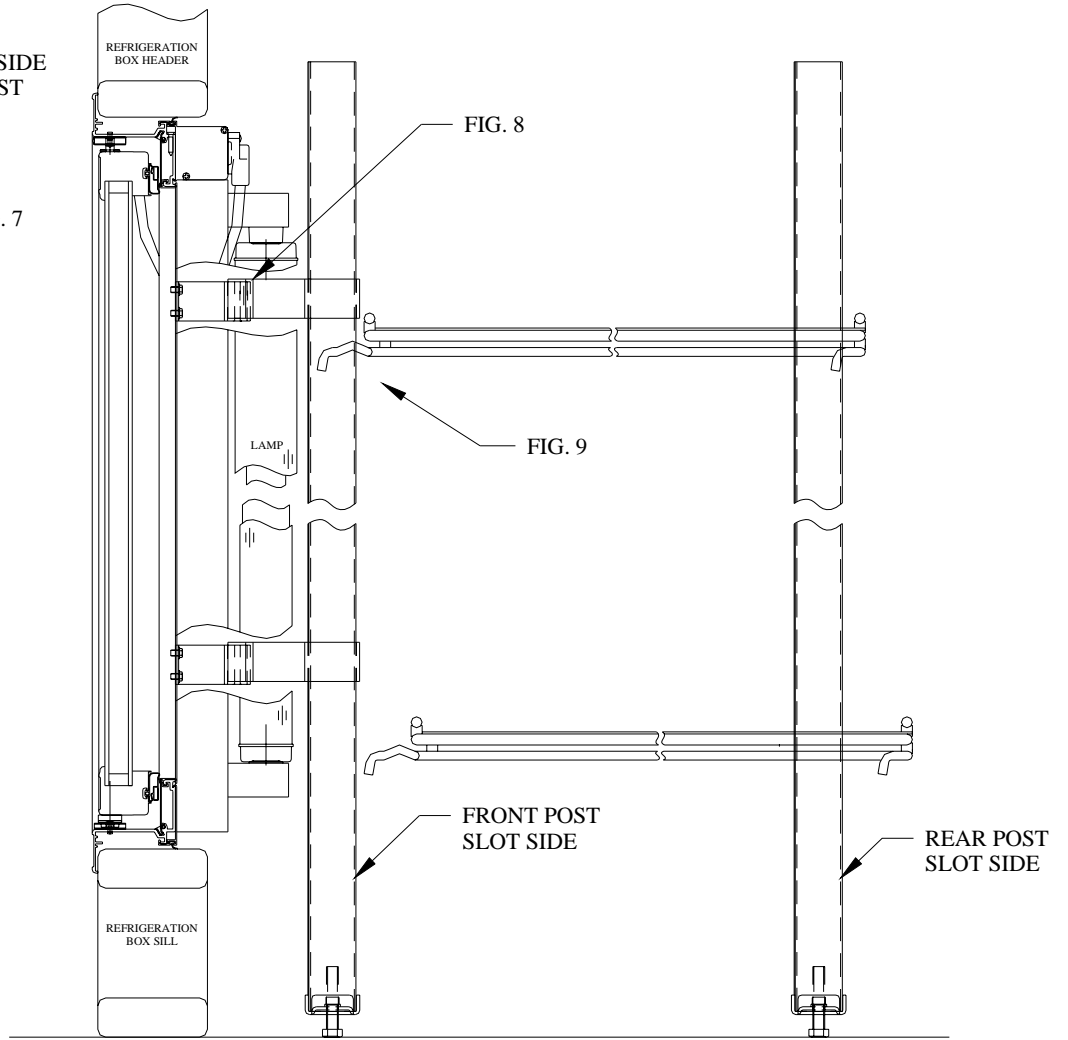

FIGURE 8 & 9
- e) Slide top bracket and hook into top frame bracket as shown in Figure 8. Slide the second bracket into bottom frame bracket.